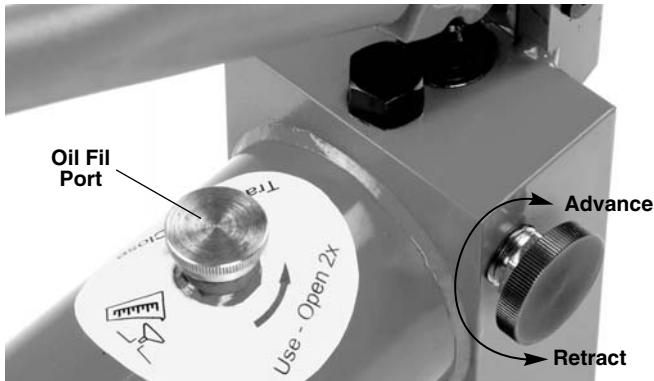

Figure 10 – Release Knob Positions (Advance/Retract)
6. Open the fill cap on the cylinder two full turns. This allows air into the reservoir during use for proper operation. (See Figure 10.)
Turn the release knob clockwise on the hydraulic pump to the closed (advance ram) position (*See Figure 10*.) To retract ram, turn release knob counter clockwise to retract position. An internal spring will retract the ram.
Before each use, check oil level. Place the bender on a flat level surface with the ram fully retracted. Remove the oil vent cap – oil should be even with the bottom of the fill neck. If oil is needed, add Shell Tellus 32 Hydraulic Oil or other equivalent high quality hydraulic oil and replace oil vent cap. See *Figure 10* for location of oil vent cap.